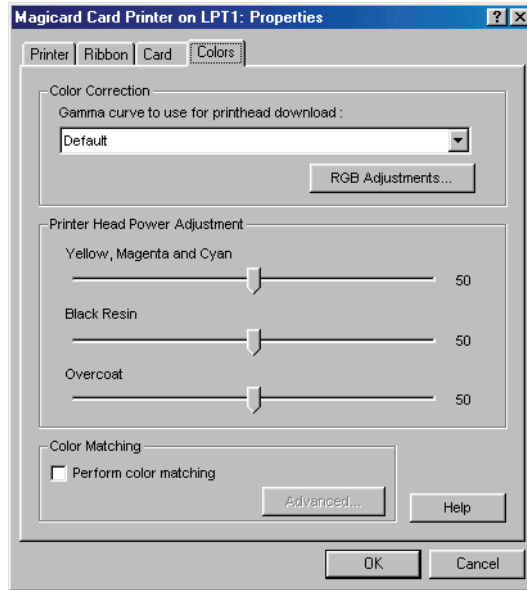

Figure 9-9: Printer Configuration Options – Colors Tab
14. Click the Colors Tab and a window with color adjustment options appears (see Figure 9-9 on page 11 of this section).